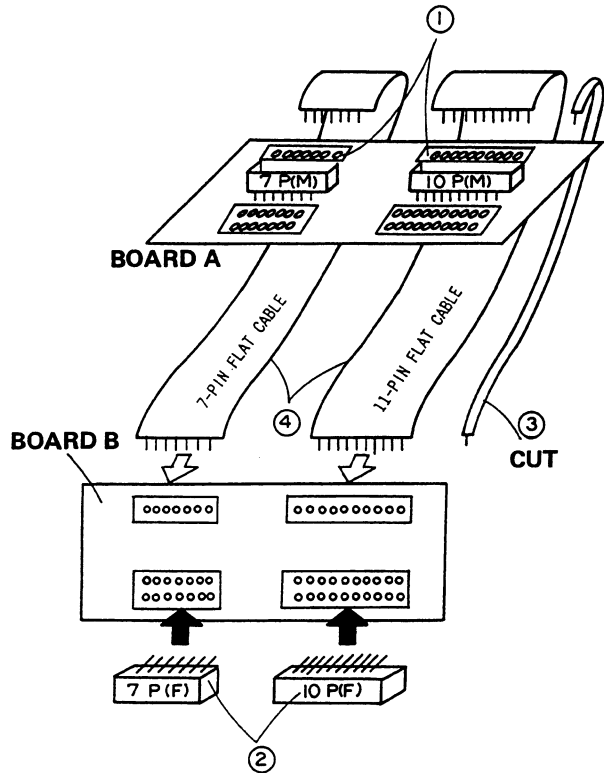

Fig. 1
- (1) Solder the 7-pin connector (M) and 10-pin connector (M) to board A. (Be careful of the direction of the connectors.)
- (2) Solder the 7-pin connector (F) and 10-pin connector (F) to board B. (Be careful of the direction of the connectors.)
- (3) Cut one pin of the 11-pin flat cable to create a 10-pin cable.
- (4) Connect boards A and B using the 7-pin and 10-pin flat cables. (Fig. 1)